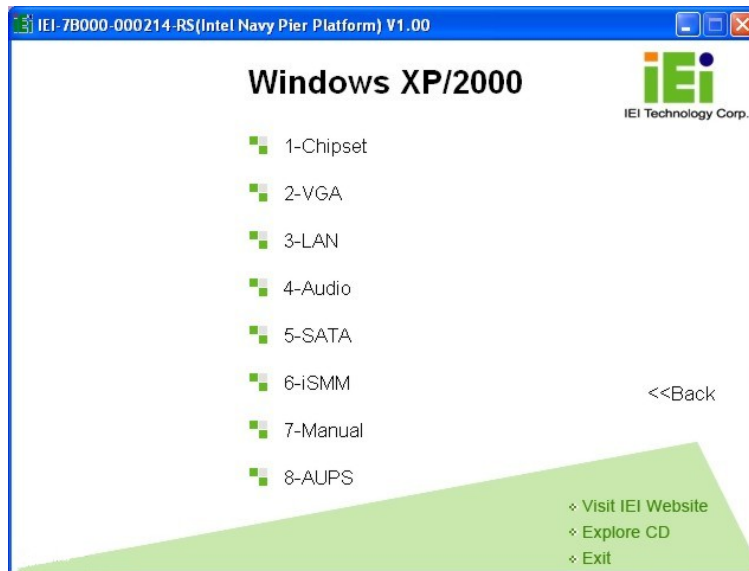

Figure 7-3: Drivers
Step 6: The list of drivers in Figure 7-3 appears.
Step 7: Access the driver list shown in Figure 7-3. (See **Section 7.2**)
Step 20: Access the driver list shown in Figure 7-3. (See **Section 7.2**)
Step 36: Access the driver list shown in Figure 7-3. (See **Section 7.2**)
Step 46: Access the driver list shown in Figure 7-3. (See **Section 7.2**)